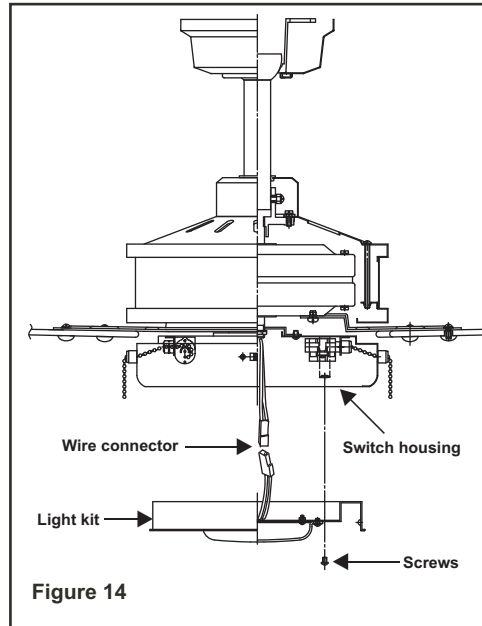

Figure 14
Step 1. Remove the 1 of 3 screws from the posts of the switch housing and keep it for future use. Loosen the other 2 screws. (Do not remove) (Fig. 14)
Step 3. Place the key holes in the LED light kit over the two screws previously loosened from the switch housing. Turn the LED light kit until the LED light kit locks in place at the narrow section of the key holes. (Fig. 14)
Step 4. Securely tighten the two light kit mounting screws previously loosened and the one previously removed. (Fig. 14)